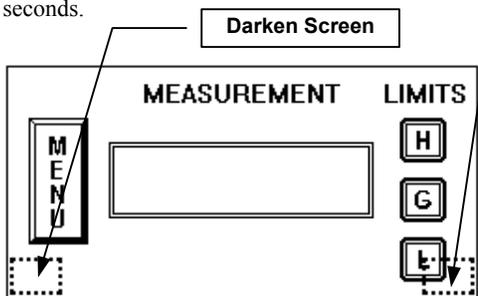

Figure ZD.6-2: Screen Contrast Secret Buttons
A “secret” function of the Touchscreen is the ability to adjust the screen contrast directly from the *Readings Screen*. There are two special, hidden buttons on the Readings Screen for adjusting the screen contrast lighter or darker as required by the operator {Figure ZD.6-2}. It is similar to the *Contrast Adjustment Screen*, but operates much slower than the *Contrast Adjustment Screen* buttons. Changes in the screen contrast made with the “secret” buttons are very small and should only be used when absolutely necessary. Typical screen contrast adjustment should be performed with the *Contrast Adjustment Screen*.
- 1) Press in the bottom-left corner of the screen {Figure ZD.6-2}, leaving the pressure on the screen for approximately five to ten seconds.
- 1) Press in the bottom-right corner of the screen {Figure ZD.6-2}, leaving the pressure on the screen for approximately five to ten seconds.